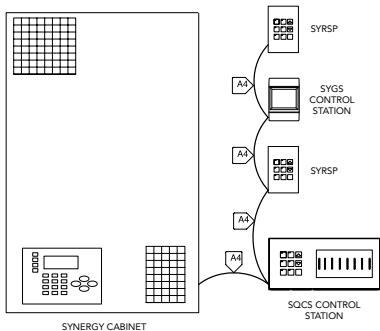

Figure 2 - SYGS Control Station One Line Drawing
4. All A4 network devices **must** be connected in a daisy chain (in and out) configuration. "T" taps or branches in the network are **NOT** permitted. See *Figure 2* on p.6.
2. Connect A4 network wiring as shown in *Figures 2 and 3* on p.6 and 7.